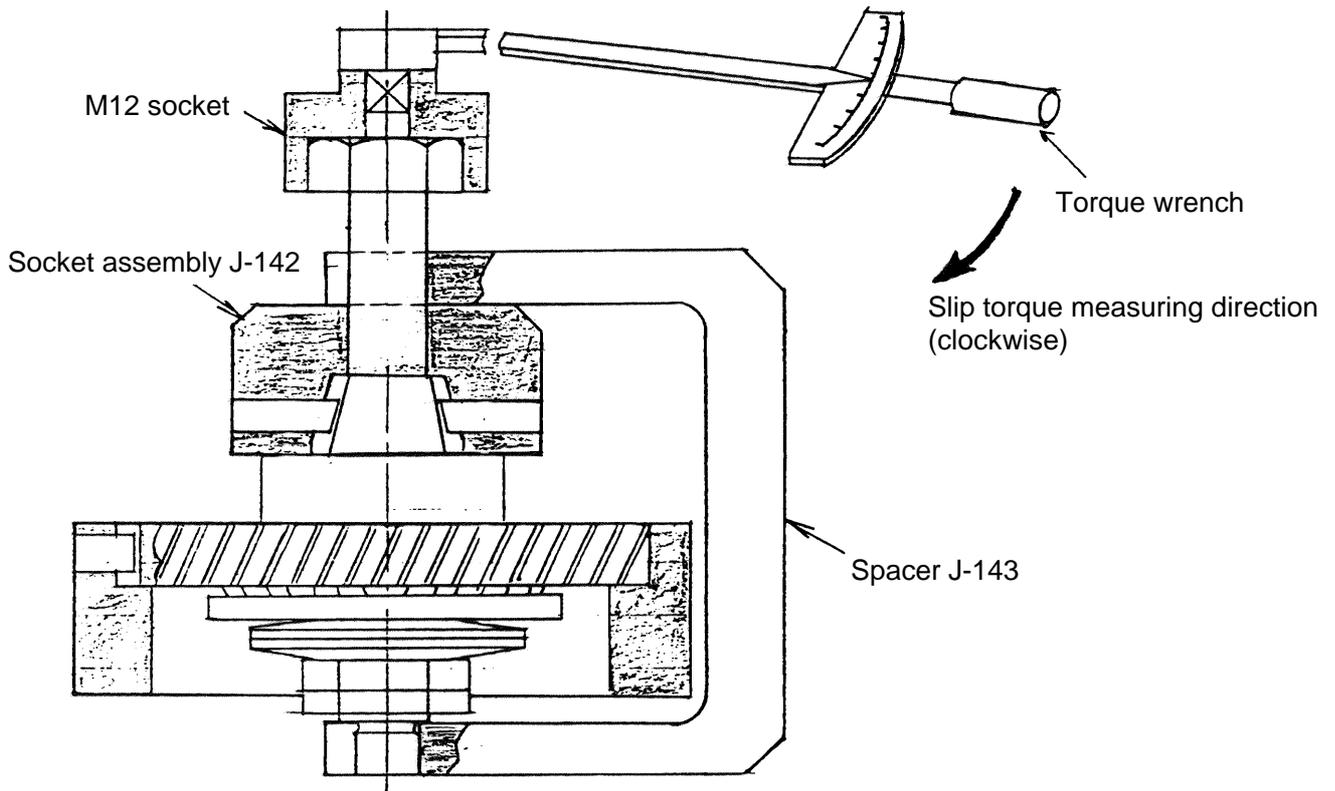

Fig. 13
Set the third pinion ①⑨ in the opposite direction as shown in Fig. 13 and hold it with the second block assembly. Put the socket assembly (J-142) on the third pinion ①⑨ and insert the spacer (J-143) over the socket assembly. Measure the slip torque on the third pinion ①⑨ axis with the torque wrench.